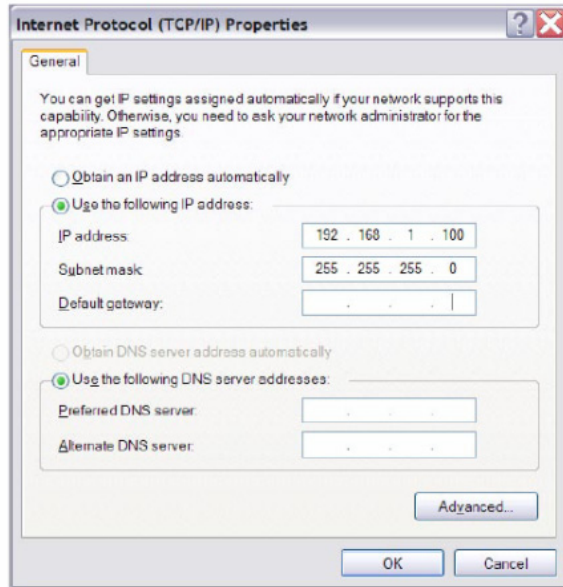

Figure 3
4. Click in "**Subnet mask**" (Fig 3). The following enters automatically: **255.255.255.0**